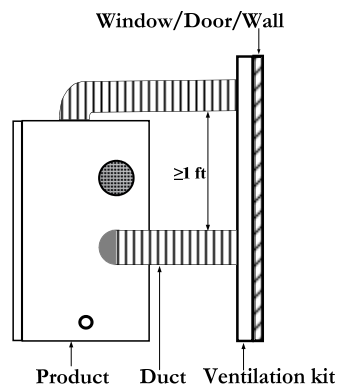

Figure 3. Installation of the product.
- The ventilation kit can interface with the outdoors through a window, door or wall as illustrated in Figure 3. The customer is responsible for complying with all applicable codes and regulations.